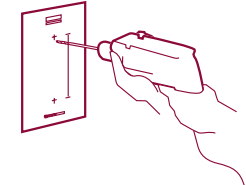

Fig. 4
- Apply the adhesive guide to the wall and, with a 5 mm-diameter wall drill, make the holes marked on the adhesive. (fig. 4)